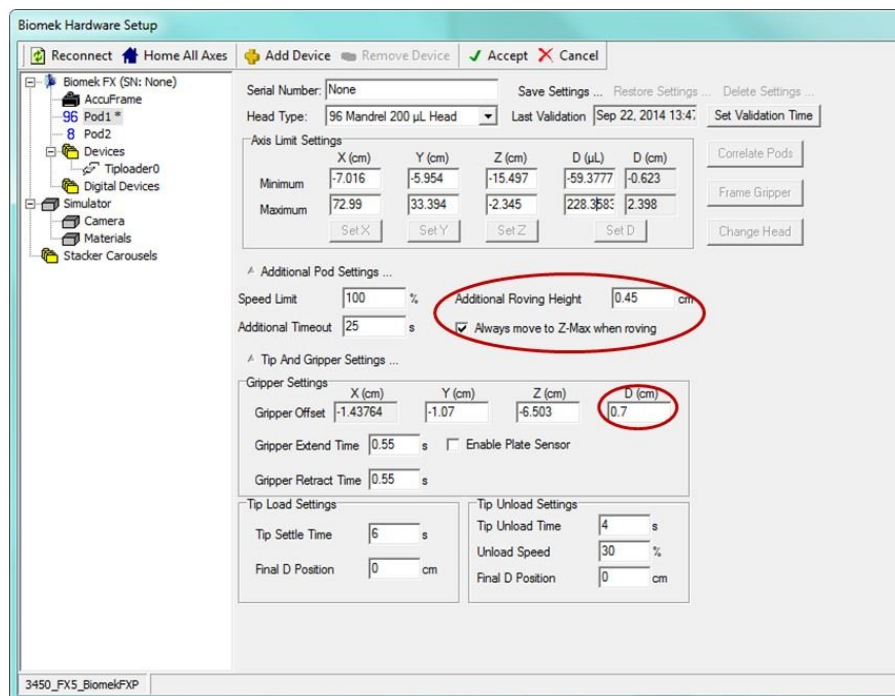

Figure 3 Hardware setup changes for Multichannel 96 Pod1
- Pod 1 (MC96) settings (Figure 3):